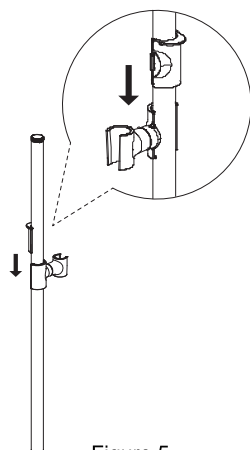
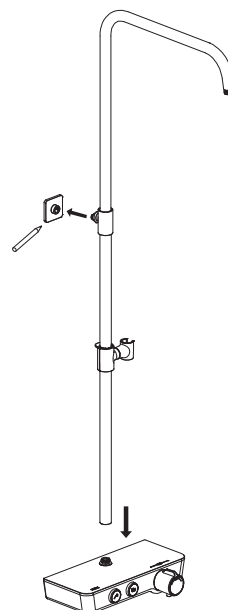

Figure 5
Figure 7
a) Connect the raiser rail to the thermostatic shower bar (Figure 5/6) and mark the position of the pipe connector on the wall (Figure 7).